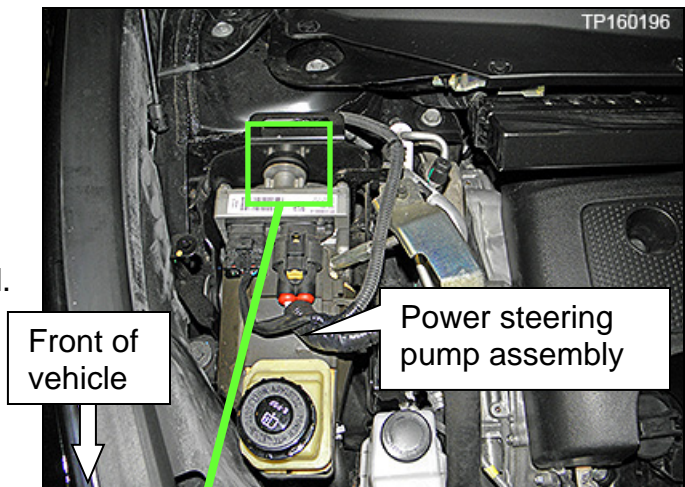

Figure 5
**NOTE:** For hybrid only, Figure 5 shown with cover already removed.